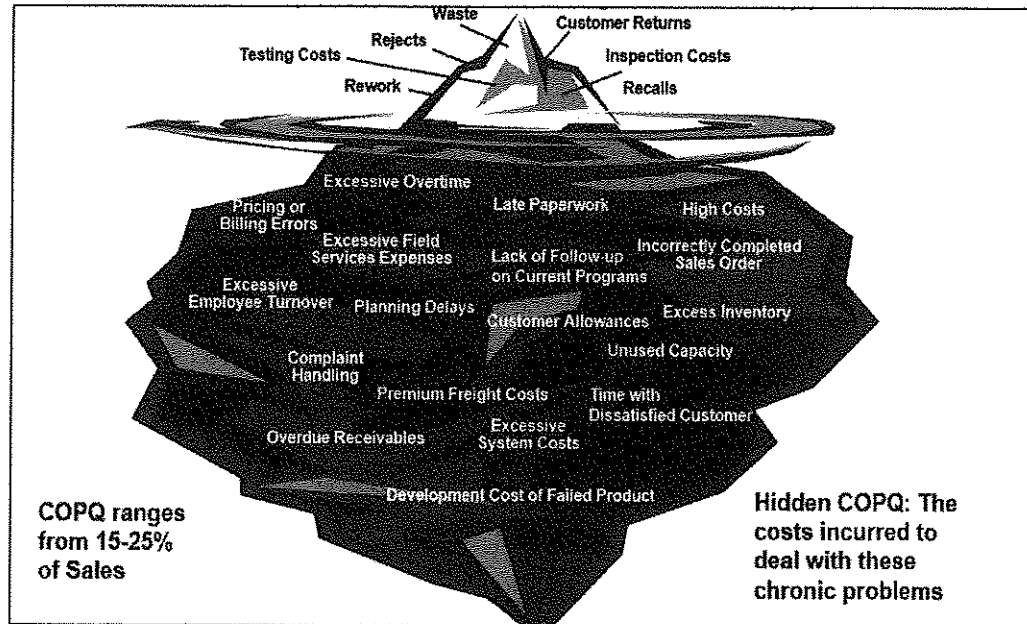

Figure 3(iii) / Rajah 3(iii)
- i. List **THREE (3)** external failure cost activities and **THREE (3)** internal failure cost activities in Figure 3(iii).
- ii. Relate the relationship occurred between Figure 3(iii) in visible and invisible Cost of Poor Quality (CoPQ).